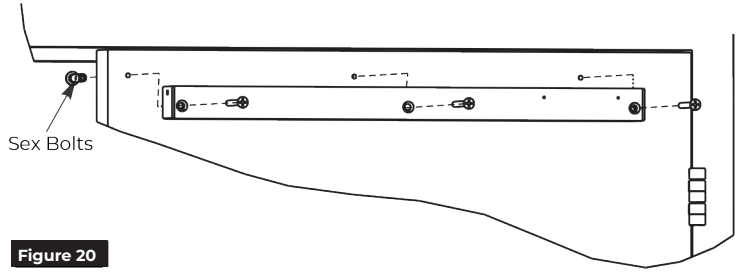

Figure 20
- Using previously prepared holes in doors, install three (3) 1/4-20 x 1-5/8" screws through each track and into sex bolts. (Figure 20)